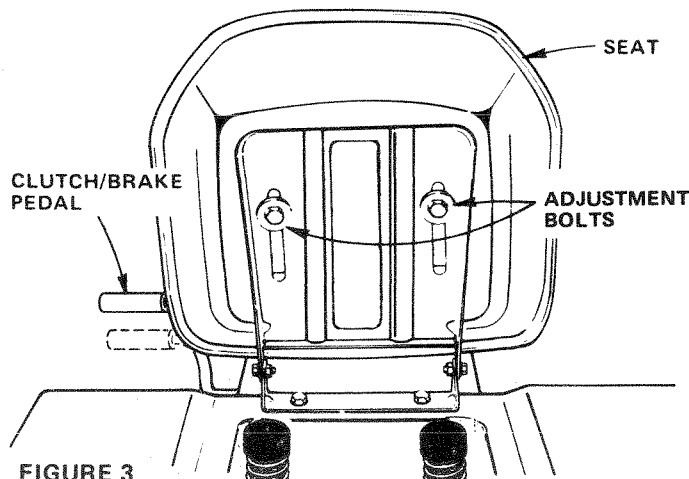

FIGURE 3
3. Place Seat on Seat Pan. Screw Adjustment Bolts, Lock washers and Flat Washers into Seat (Fig. 3). Adjustment Bolts, Lockwashers and Flat Washers found in Bag of Parts. Tighten finger tight.
5. Raise Seat. Use 9/16" wrench to loosen Adjustment Bolt (Fig. 3). When adjusted for comfortable operation, tighten Adjustment Bolts securely.